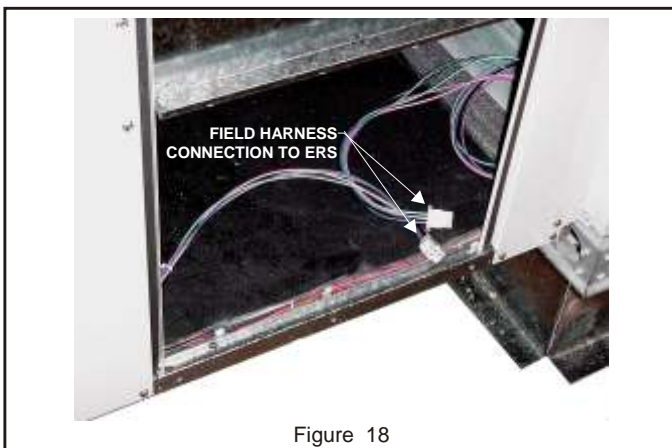
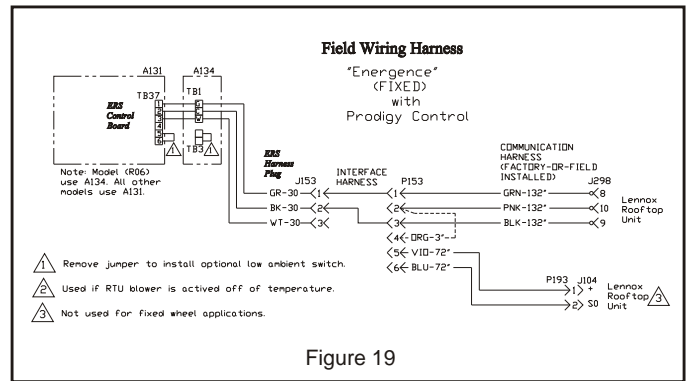

Figure 18
Figure 19
11. Remove the control access panel and locate the 3-pin connector P153 wiring harness that was previously routed into the return air of the rooftop unit. Plug the harness connector P153 into the connector J153 located at the bottom of the access door inside the ERS. **See Figure 18 and Figure 19.**